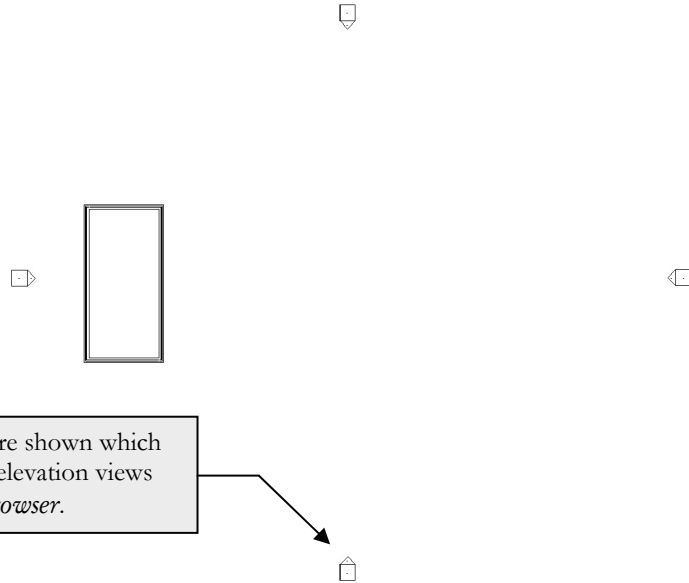

FIGURE 7-1.1 Bldg. and Elev. tags
5. Using the *Wall* tool with the wall *Type* set to **“Exterior - Brick on Mtl. Stud,”** draw a **40'-0" x 20'-0"** building (Figure 7-1.1).